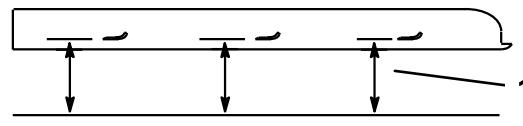

Figure 79
4. Measure at the **B** and **C** locations from a level surface to the cutting edge of blade tips (Figure 79).